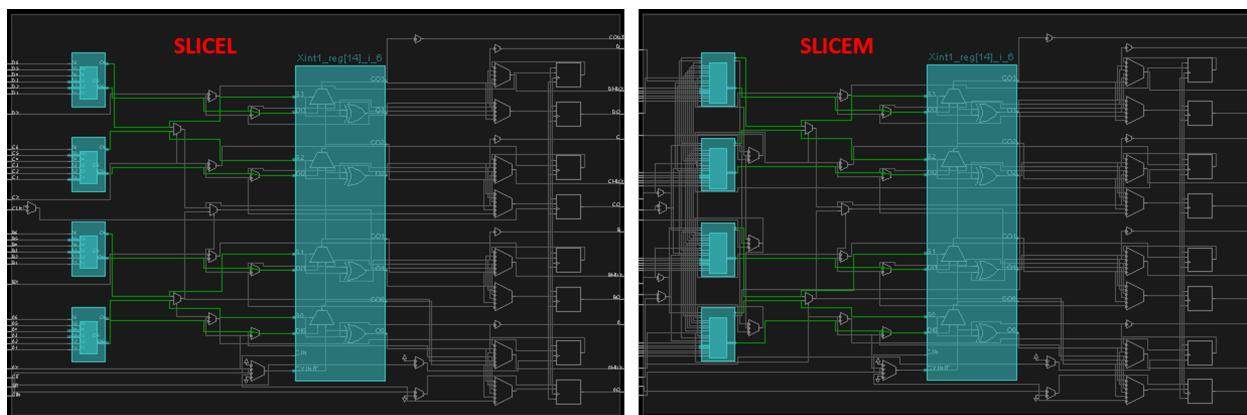

Figure 24: The same group of cells placed on a SLICEL site (left) and a SLICEM site (right).
- A list of **compatible types** for each site. Site A is said to be compatible with site B if the logical cells placed on site A can *always* be placed on site B as well. For example, as shown in Figure 24, SLICEL sites are compatible with SLICEM sites. The cells placed on the SLICEL in the figure can be moved to the SLICEM and function indentially. SLICEM sites, however, are *not* compatible with SLICEL sites. This is because SLICEM sites support LUT RAM cells, which cannot be placed on SLICEL sites.